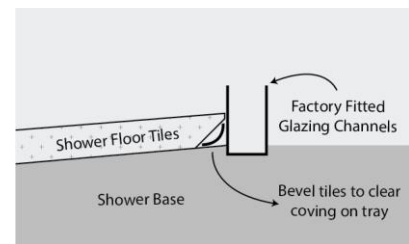

FIGURE 5
- When tiling a shower base the shower floor tile surface should be a minimum of 6mm below the top edge of the base glazing channel. Refer to figure 5.